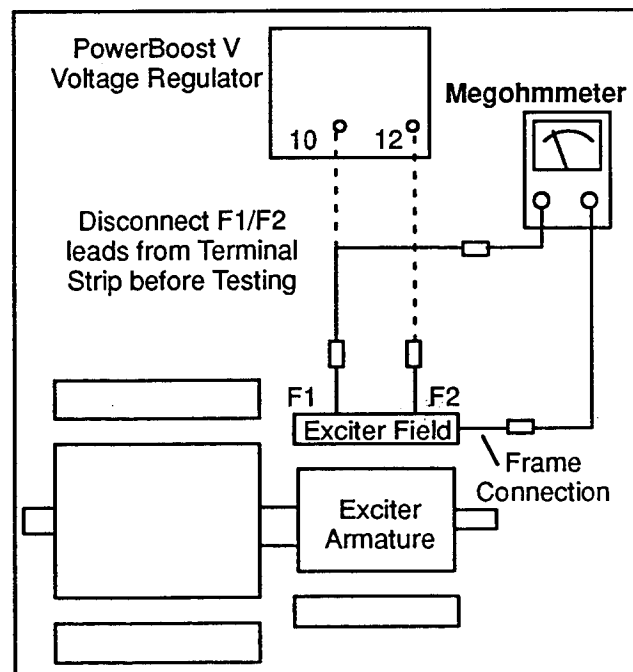

Figure 8-6. Megohmmeter Connections on Exciter Field
3. Check exciter field for a grounded condition. Using a megohmmeter, apply 500 Volts DC to F1 or F2 lead and exciter field frame. See Figure 8-6. (Follow the instructions of the megohmmeter manufacturer when performing this test.) A reading of approximately 500K ohms (1/2 megohm) and higher indicates the field winding is good. A reading of less than 500K ohms (approximately) indicates deterioration of winding insulation and possible current flow to ground. Repair or replacement of the exciter field is necessary.